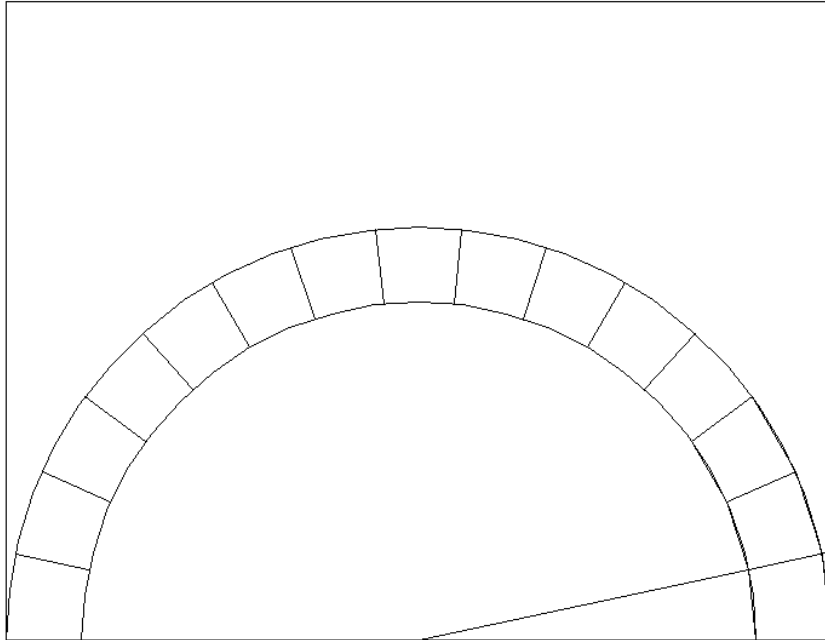

Figure 13.4
4. A 15-unit arch is only slightly more difficult, but the process is exactly the same. In this case, use your protractor to mark off divisions every 12 degrees, as we have shown in **Figure 13.4**. Each voussoir will be somewhat narrower in side view, but should be somewhat deeper front to back.